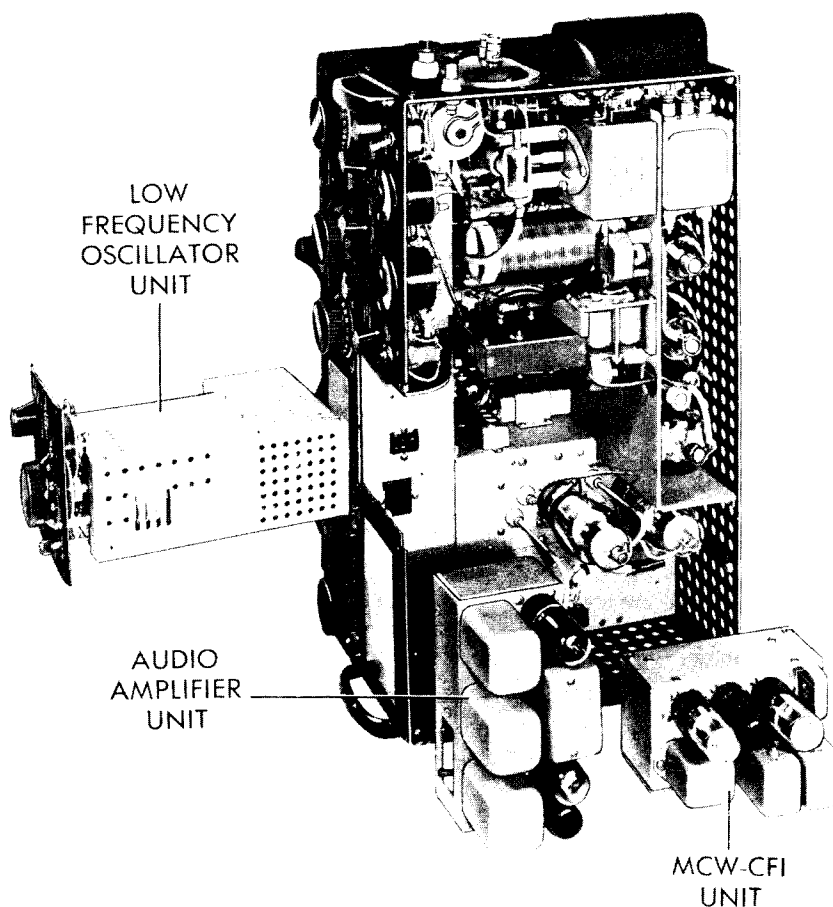

Figure 1-3. Radio Transmitter T-47A/ART-13 — Units Removed
a. TRANSMITTERS.—Sub-assembly type of construction has been used extensively in Radio Transmitters T-47A/ART-13 and T-412/ART-13B. This type of construction greatly simplifies the removal of component parts without major disassembly of the unit. The MCW-CFI, the Audio Amplifier, and the plug-in oscillator units (Type O-17/ART-13A used in both AN/ART-13A and AN/ART-13B; Type CDA-T used only in AN/ART-13B) are connected by multi-terminal plugs to facilitate removal for servicing (see figures 1-3 and